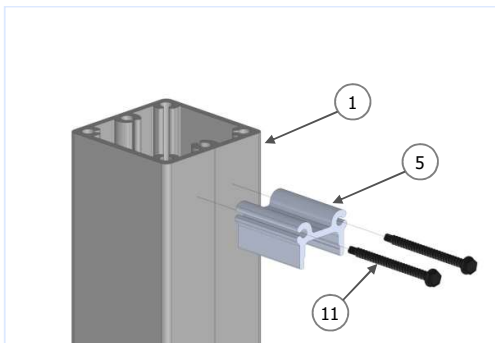

Fig 14A
- If installing an 800 Series top rail, mount the top rail RCB (5) to the post as shown in Fig 14A and fasten using #8 x 2" Hex Washer Tek Screw (11). Do not overtighten.